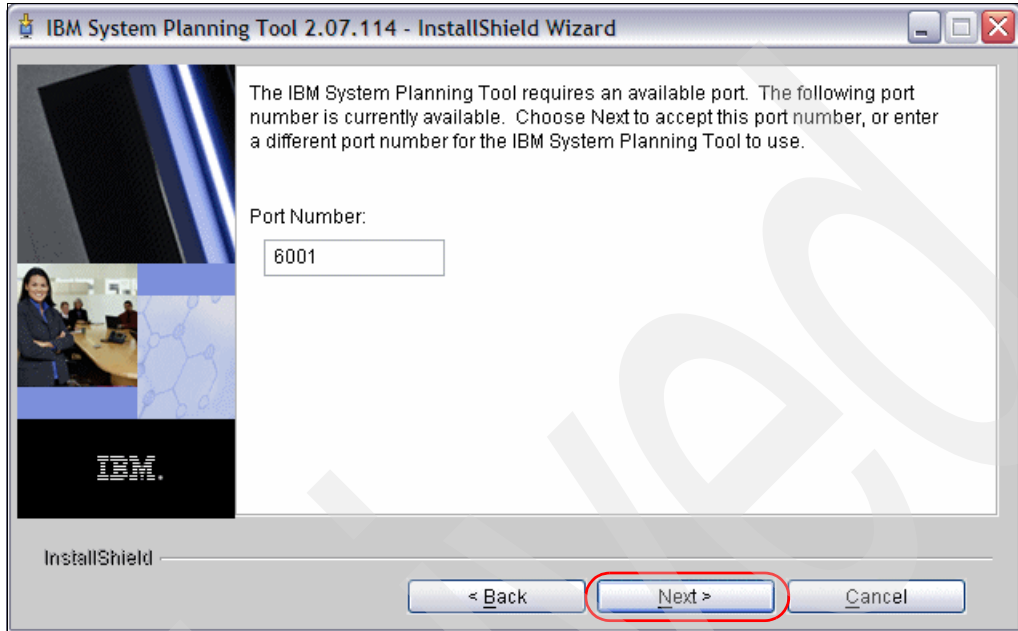

Figure A-15 IP port setting wizard
- The next step is to select an available IP port number on your PC for the System Planning Tool Version 2 daemon to listen on (see “Setting up the System Planning Tool Version 2” on page 208 for more details). At this time, you can accept the proposed value and click **Next** to continue, as shown in Figure A-15.